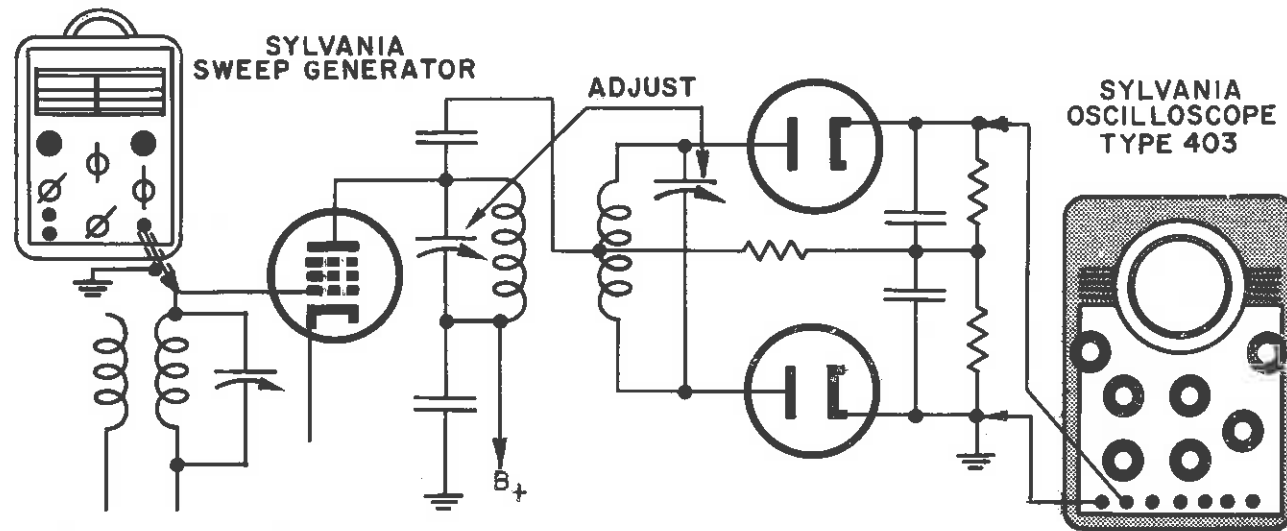

Fig. 16—Oscilloscope connections for discriminator alignment in an f-m receiver.
For discriminator alignment the VERT. IN. terminal of the oscilloscope is connected to the top of the discriminator load resistor through a shielded lead as shown in Fig. 16. The sweep generator output must remain connected to the signal grid of the converter tube. The sweep frequency of the generator is 60 cycles and the sweep frequency of the oscilloscope is set to 120 cycles. The pattern on the screen will then be similar to the curve shown in Fig. 17 (A). The trimmers of the discriminator transformer must be adjusted to bring points A and C, or E and G, equal distances from the horizontal center line (B or F). Also, the adjustments must be continued to bring B and F equal distances from D. Slant lines AG and CE will intersect, with point D resting on the horizontal line when alignment is correct. Adjustment of the primary trimmer of the discriminator transformer controls the distance of the points A,